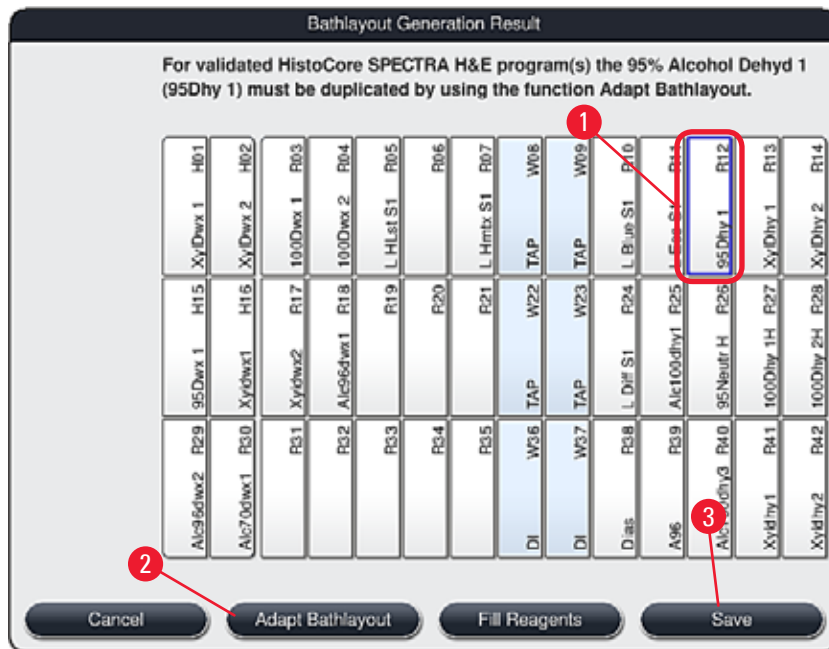

Fig. 53
- After the software calculates the bathlayout using the prioritized programs, the user obtains an overview of the results displayed on the screen (→ "Fig. 53").
- If no Leica programs were integrated into the bathlayout, the display (→ "Fig. 53") deviates from the one shown (not pictured). In this case, the reagents can be filled as described in (→ p. 78 – Filling the reagents).